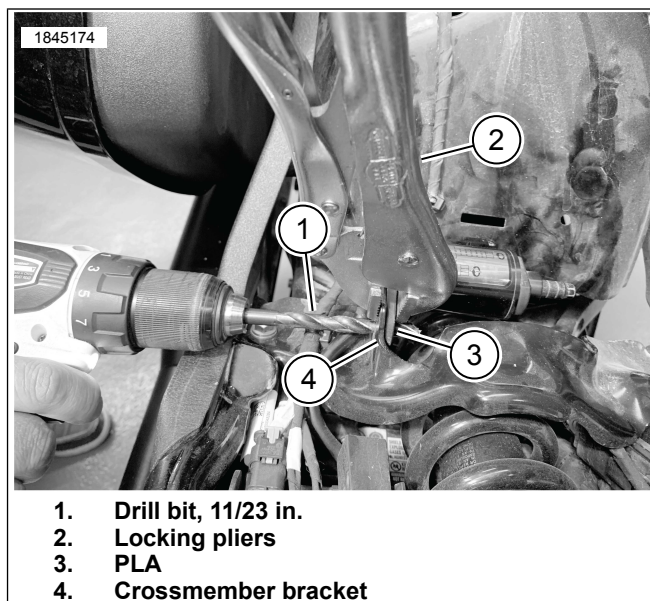

Figure 3. Rework Mounting Hole
7. See Figure 3. Using 11/32 inch drill bit (1), drill through crossmember bracket (4).
- a. Using the existing hole on crossmember bracket (4) as a guide.